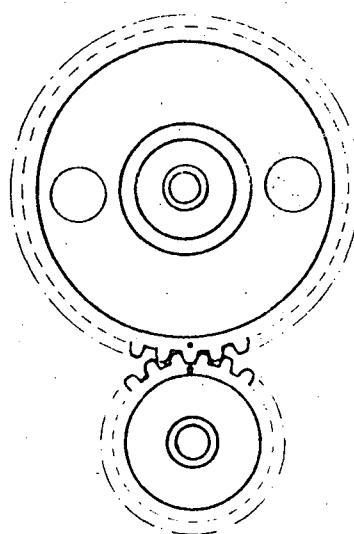

Fig. 4
- c) Align the synchronization marks (fig. 4) and push in the camshaft gear until it stops.